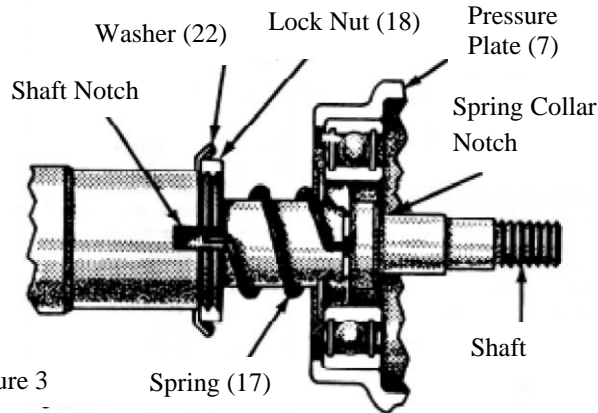

Figure 3
13. Continue to support the fan plate (nose down) and press bearing (11) using a pressing tool that contacts the outer race of the bearing only. Carefully press the bearing until the inner bearing race contacts spacer (12). Do not continue pressing the bearing once the inner race has touched the spacer; severe damage to the bearings may result. As a check after assembly, the bearing spacer should be tight against each bearing race yet able to be moved by a finger load.
14. Turn the fan plate over and install snap ring (14) with the flat side towards the bearing, making certain the snap ring is fully seated in its groove.
15. Install the spring pack(9) on the pulley and secure it using the two 1/4"-20 Sems screws(8) provided. Torque each screw to 50-75 inch pounds (5.6-8.5 N.M).
16. Apply a thin film of the lubricant provided to the four O-rings(6). Position the O-rings(6) in the grooves located in the drive pin holes of the pressure plate(7). Apply lubricant to each drive pin. Install the pressure plate assembly (7) after aligning the drive pins, and spring collar notch with the drive pins and the end of the anti-rotation spring(17). Gently but firmly depress the pressure plate assembly(7) against the spring pack(9) and visually check that the end of the antirotation spring(17) protrudes through the notch of the spring collar. (Refer to Figure 3)